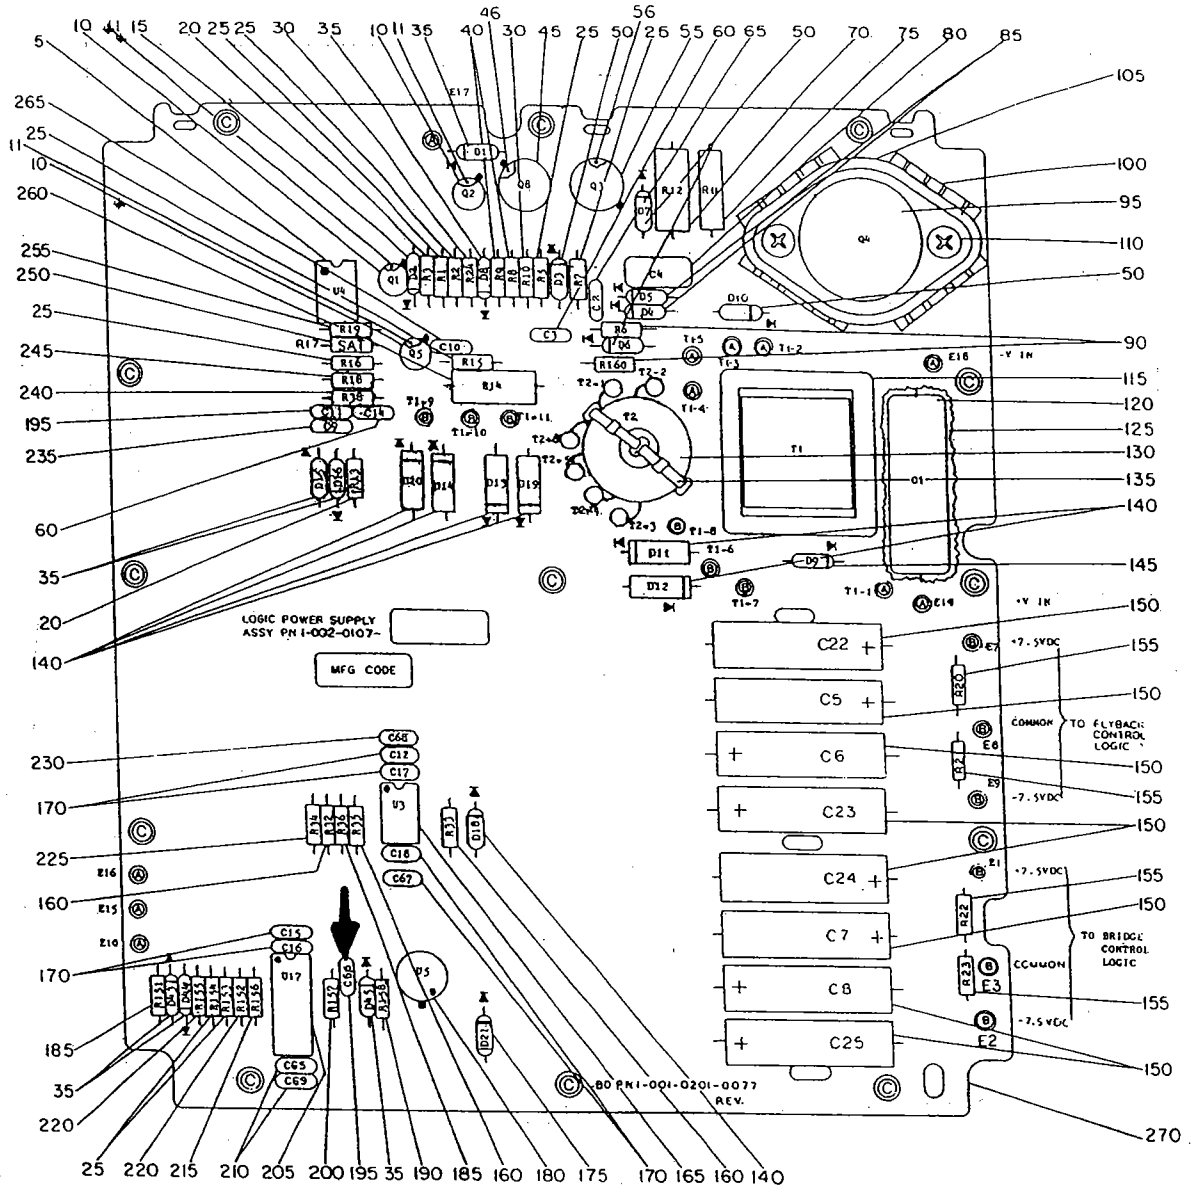

FIGURE 2
3. Using figure 2, locate position of capacitor C66, item 195 on figure 2.